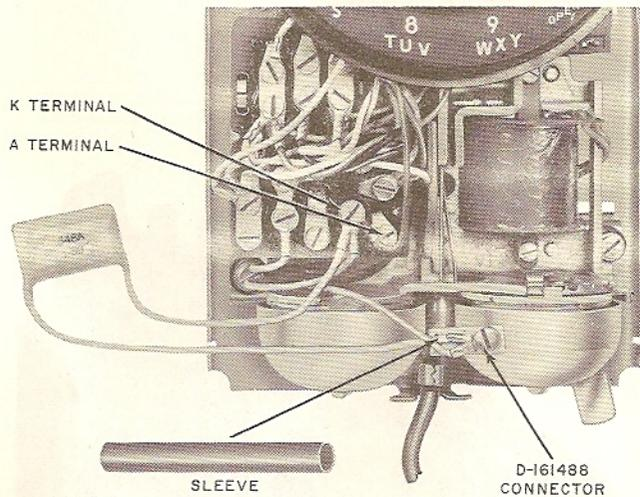

Fig. 22 — Replacing Capacitor
- (1) Select either of network terminals A or K to which only one lead is connected.
- (2) Remove this lead and connect to one lead of 548A capacitor with a D-161488 connector and insulating sleeve.
- (3) Connect other lead of 548A capacitor to remaining network terminal K or A (Fig. 22).